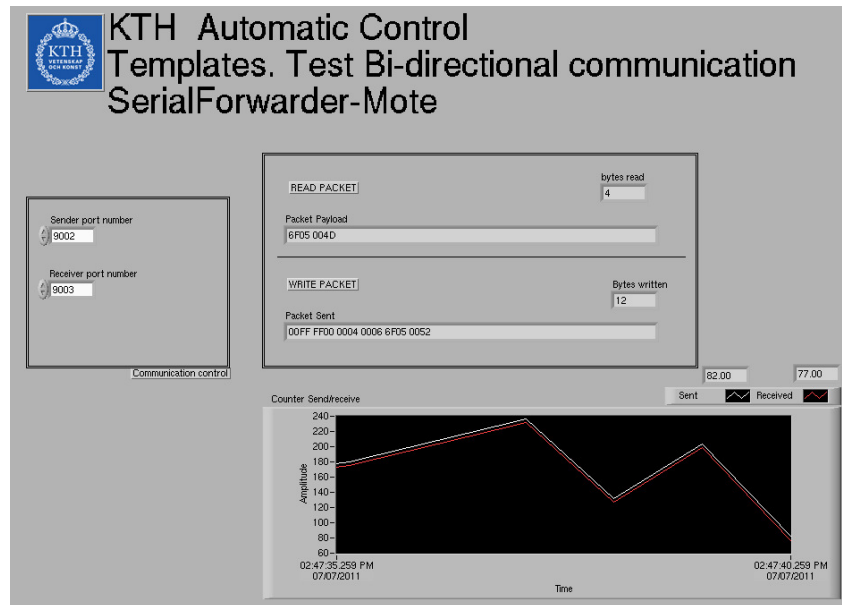

Figure 2.10: Front panel TestHIL
**PC: TestHIL.vi** Figure 2.10 shows the front panel of the **TestHIL** template. In the *Communication control panel* we can configure the ports for the sender and receiver TCP/IP servers. The rest of the front panel is the same as the previous ones.